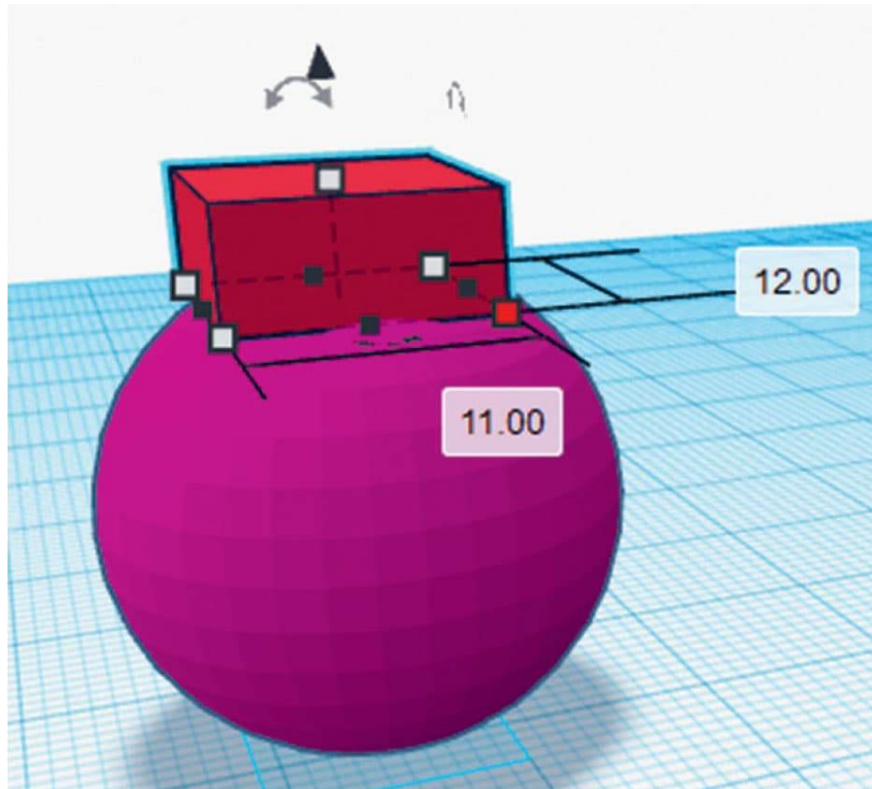

FIG. 5: Create the ball for the joint and add a box for the handle.
5. To create the ball for the joint, simply use the **Sphere** tool to create a ball that is 1 mm less than the internal diameter of the socket. We used 22 mm for the ball diameter. Add a small box to use as the handle for the ball at the top (fig. 5).